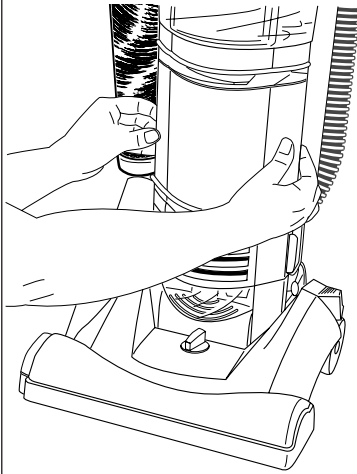

FIG. 12
Step 2: Grasp dust cup with both hands and pull out (FIG. 12).